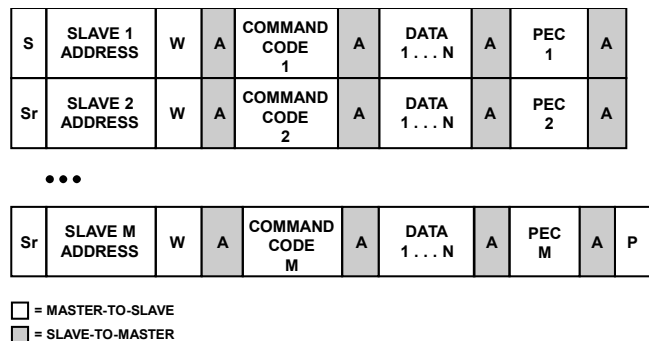

Figure 78. Group Command Protocol with PEC
In addition to the communication protocols described in the Data Transfer Commands section, the PMBus slave supports a special group command in which commands are sent to multiple slaves in a single serial transmission. The commands to each slave can be different from one another, with each set of {slave-address, command} separated by a repeated start (Sr) bit (see Figure 78). At the end of a transmission to all slaves, a single stop (P) bit is sent to initiate concurrent execution of the received commands by all slaves.